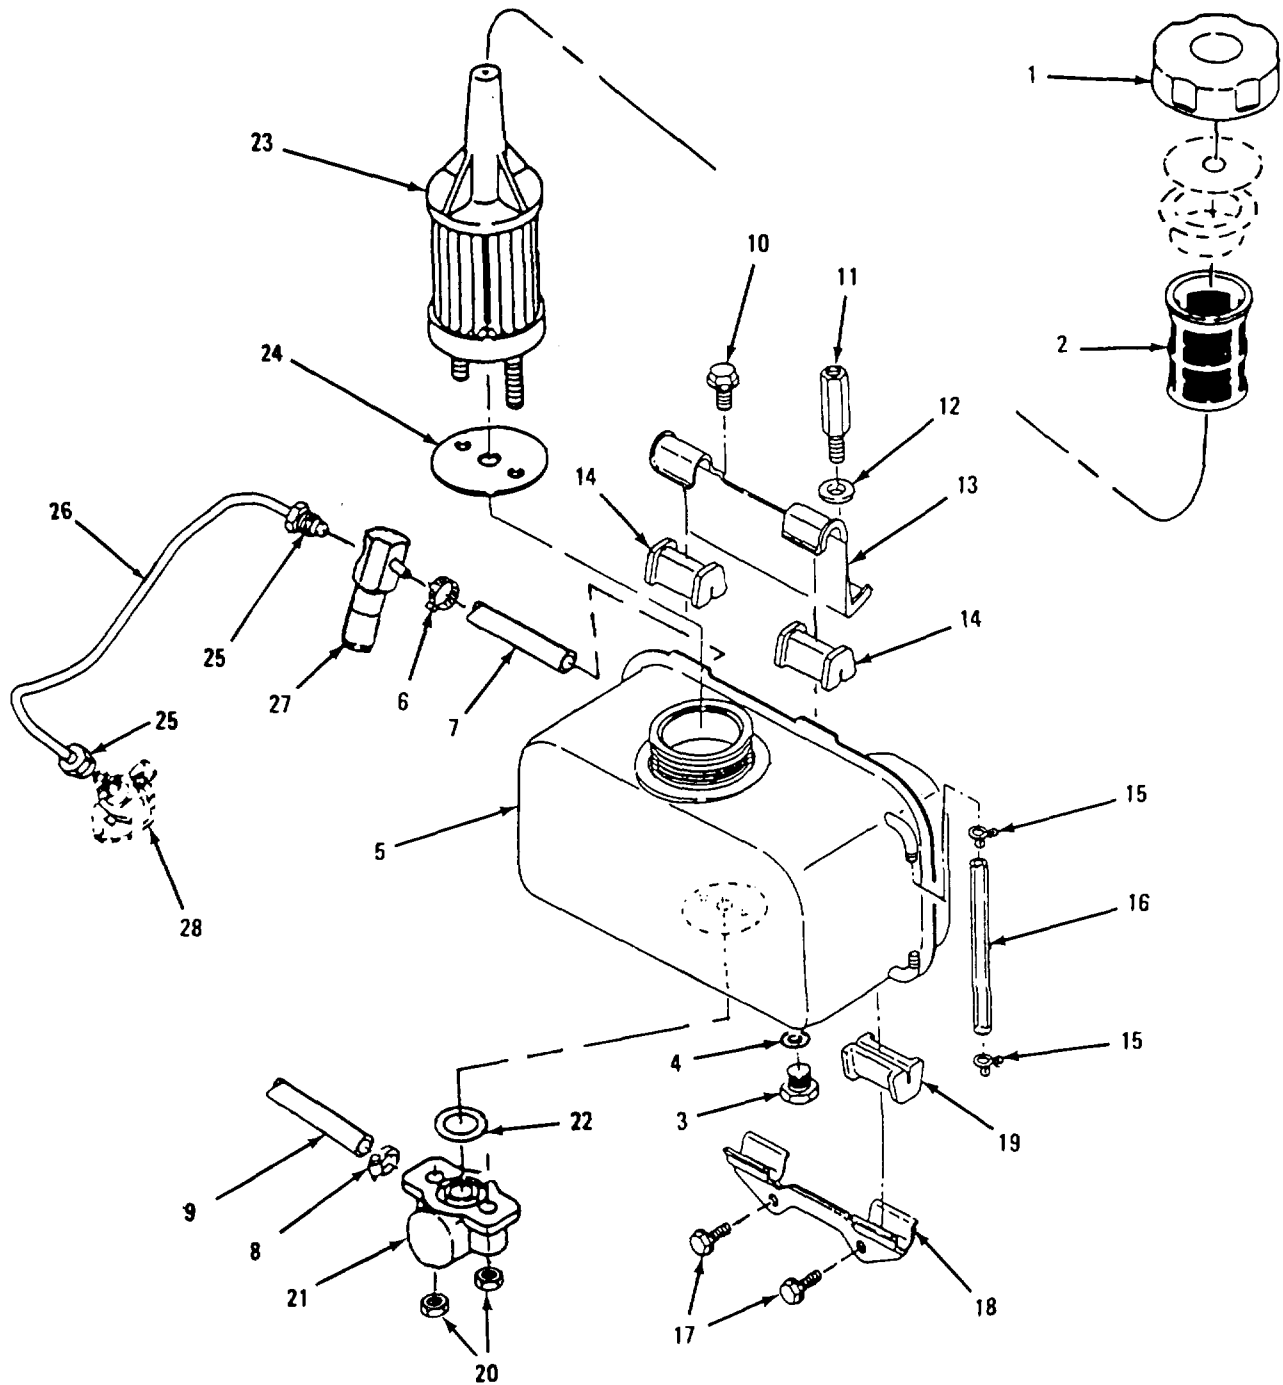

Figure 4-19. Fuel Tank Assembly Repair and Replacement
a. **Removal.** (Refer to Figure 4-19)
- (1) Remove fuel cap (1) and strainer (2).
- (2) Remove drain plug (3) from bottom right corner of the fuel tank (5) and drain out all fuel into a clean container. Dispose of fuel per FM 10-69.
- (3) Release two hose clamps (6) on overflow hose (7).
- (4) Loosen clamp (8) and remove fuel line hose (9) from fuel tank (5).
- (5) Remove hex head screw (10), lifting bolt (11), and washer (12) securing the upper part of the fuel tank stay bracket (13) and remove stay bracket and two dampers (14).
- (6) Remove fuel tank (5).
- (7) Remove two clamps (15) and pipe gauge (16).
- (8) Remove two bolts (17), stay (18), and two dampers (19).
- (9) Remove two nuts (20), securing the fuel cock (21) to studs on the fuel bank (5) and remove fuel cock.
- (10) Remove O-ring (22) from fuel cock (21). Discard O-ring.